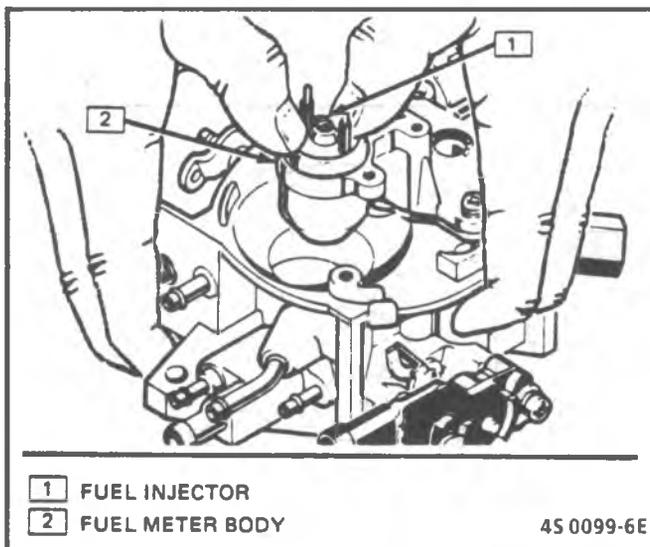

Figure 4-27 - Installing Fuel Injector - TBI 220
4. Injector, aligning raised lug on each injector base with notch in fuel meter body cavity. Push down on injector until it is fully seated in fuel meter body (Figure 4-27). (Electrical terminals of injector should be parallel with throttle shaft).